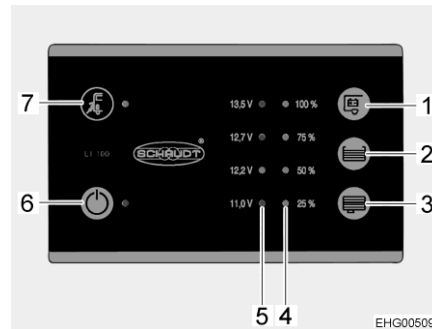

Fig. 85 Panel (LT 100)
The yellow LED at the mains connection symbol "⚡" (Fig. 85,7) is lit when the vehicle is connected to an external mains supply. In this case, the LED will also be lit when the panel is switched off.
The 12 V main switch (Fig. 85,6) switches the panel and the 12 V power supply of the living area on and off.
- Press switch "⏻" (Fig. 85,6): The 12 V living area power supply is switched on. The LED lights up green.
- Press switch "⏻" (Fig. 85,6) again: The 12 V living area power supply is switched off. The LED goes out.
The LED array (Fig. 85,5) displays the battery voltage of the living area battery as follows:
- Press the button " " (Fig. 85,1): The battery voltage of the living area battery is displayed.
The LED array (Fig. 85,4) displays the fill level of the fresh water tank or of the waste water tank.
Press the button "☰" (Fig. 85,2): The fill level of the fresh water tank is displayed by lit LEDs.
Press the button "☷" (Fig. 85,3): The fill level of the waste water tank is displayed by lit LEDs.